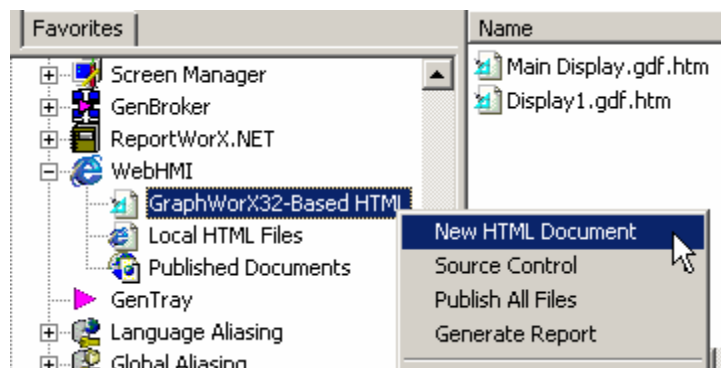

Figure 4.27. Creating a New HTML File in a Project
- Right-click on the **Applications/WebHMI/GraphWorX-Based HTML** tree and select **New HTML Document**, as shown in **Figure 4.27**. In this case, you need to specify a GraphWorX display file in the **Based on Source File** field by browsing for the file or by typing in the file name. You also need to specify the name of the new HTML file in the **Publish Web Page** field.